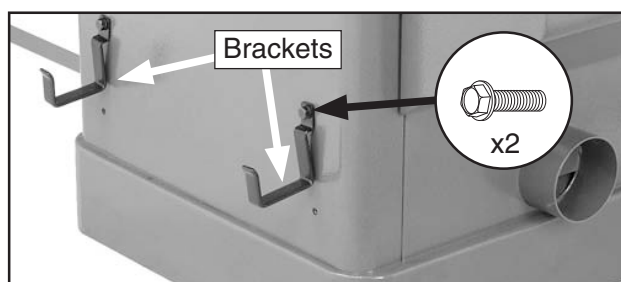

Figure 43. Fence resting brackets installed.
7. Install the fence resting brackets (**Figure 43**) onto the back of the cabinet with the two M8-1.25 x 12 flange bolts.